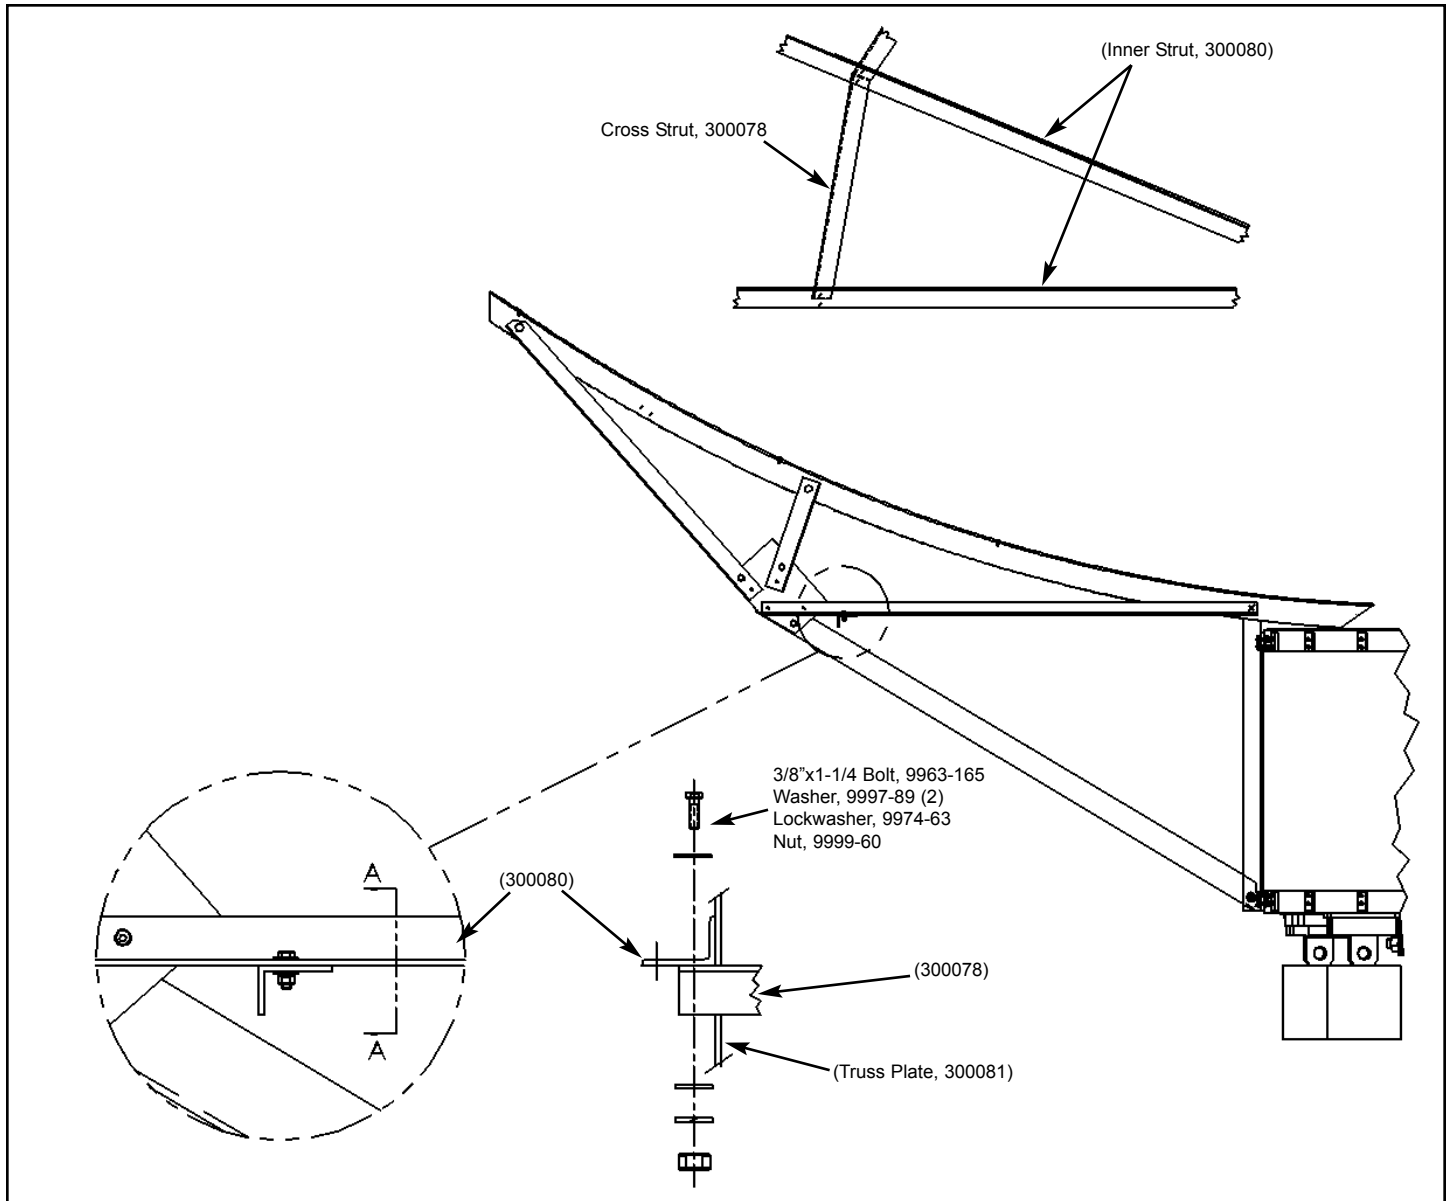

Figure 16
Step 11 After all 16 reflector panels are fastened to ribs. Attach the Cross Struts (300078) by placing them in-between the Inner Struts (300080) and snug tight the hardware. Refer to Figure 16.